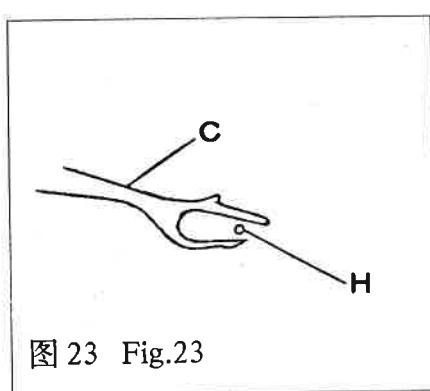

图 23 Fig.23
②作上述调整后，必须检查钩线叉在左端 (图 23) 时，机针 “H”的针尖应在钩线叉 “C”的叉口中间或机针稍低于中间位置通过。如有相撞，必须作相应调整，达到左右兼顾。
(3) Adjustment of the position of the thread hook
② When the thread hook locates at the left end (Fig.23) after completing the said adjustment, the needle point "H"shall be in the middle of the prong of the thread hook "C". The needle can also pass the thread hook at a location lower a bit than the middle. Microadjustment can be made if the needle point comes into contact with the thread hook.
(4) 钩线叉的前后位置